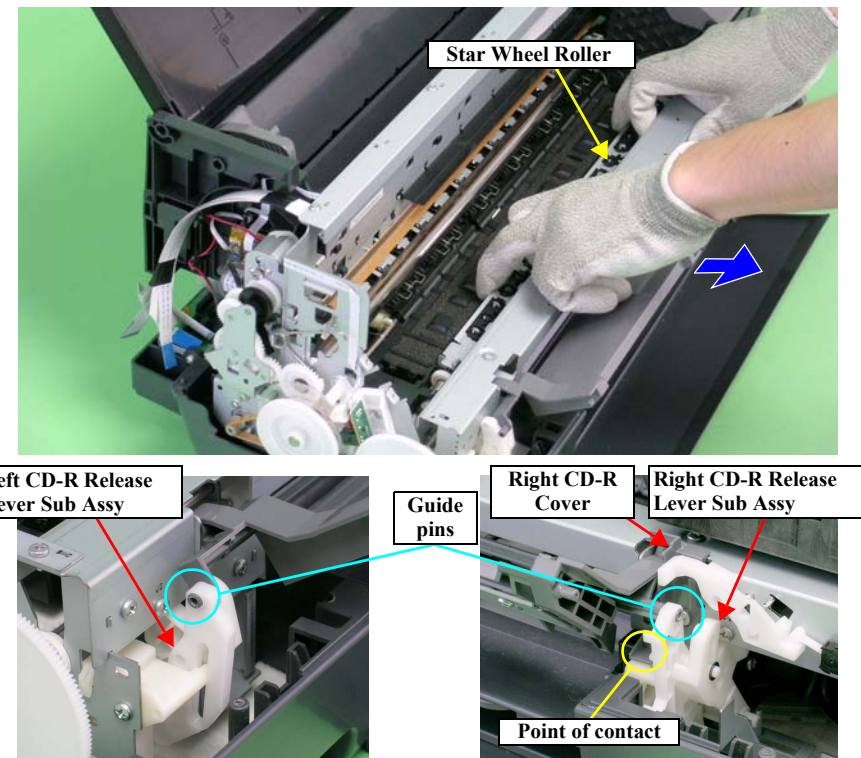

Figure 4-85. Removing the Paper EJ Frame Assy
- Tighten the screws in the order shown in Figure 4-85.